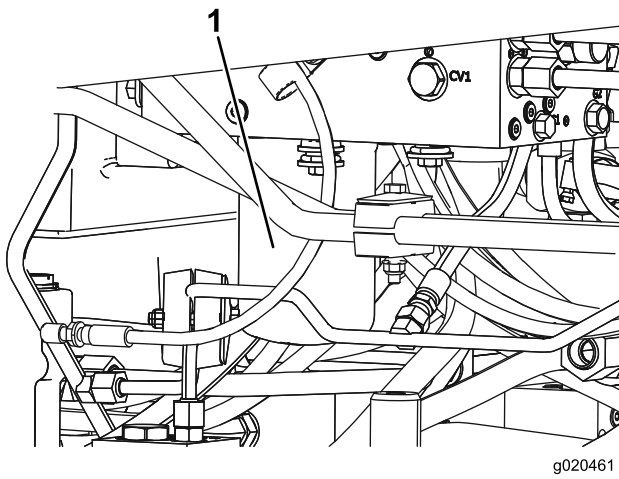

Figure 74
5. Repeat the procedure on other filter (Figure 74).